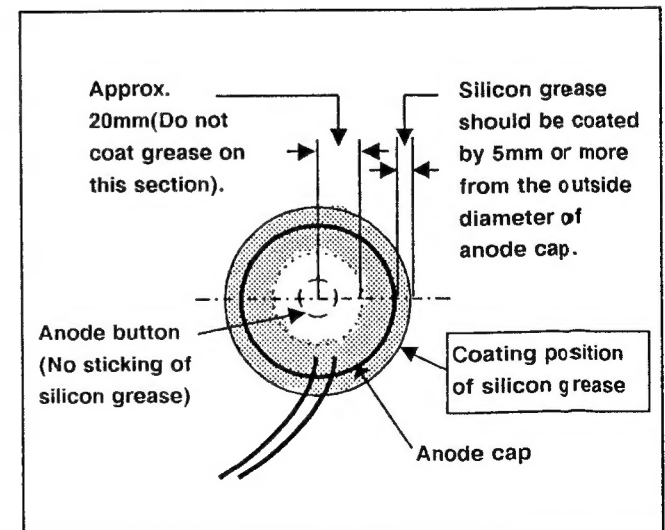

Fig. 7
- Coat silicon grease on the section around the anode button. At this time, take care so that any silicon grease does not stick to the anode button. (Fig. 7)